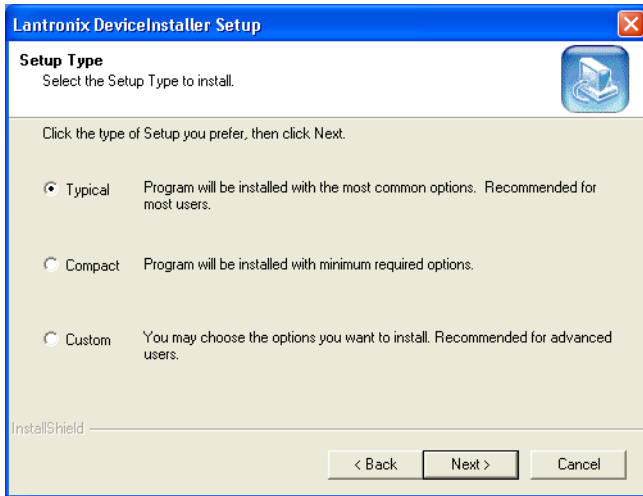

Figure 12: Select Setup Type
10. Now the Select Setup Type window appears (see Figure 12).